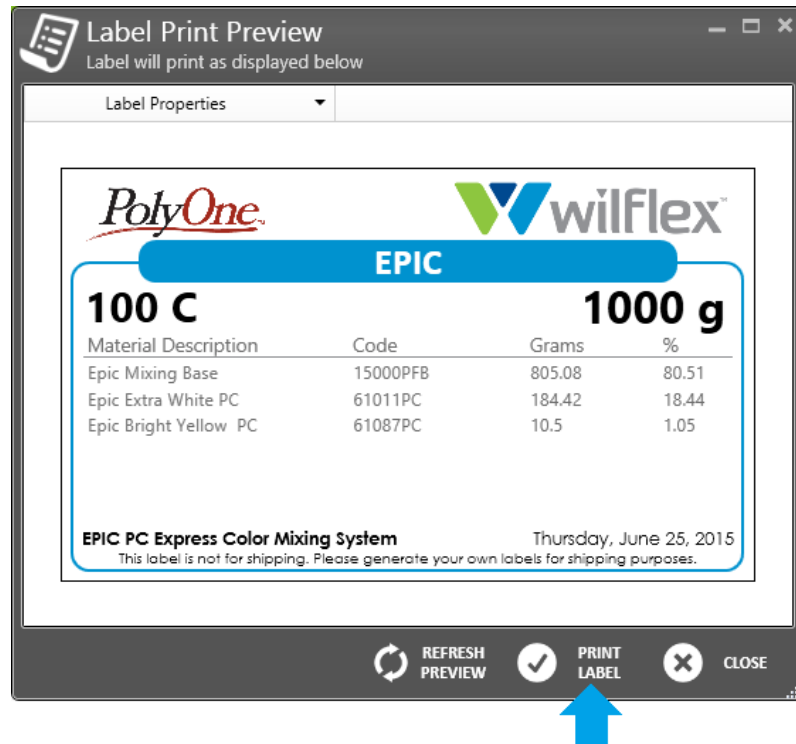

Figure 20 Print Label Preview
5. Click the “Print label” button a dialog to preview your label. If you are happy with the label click on “Print Label” on the dialog box. (Figure 20)